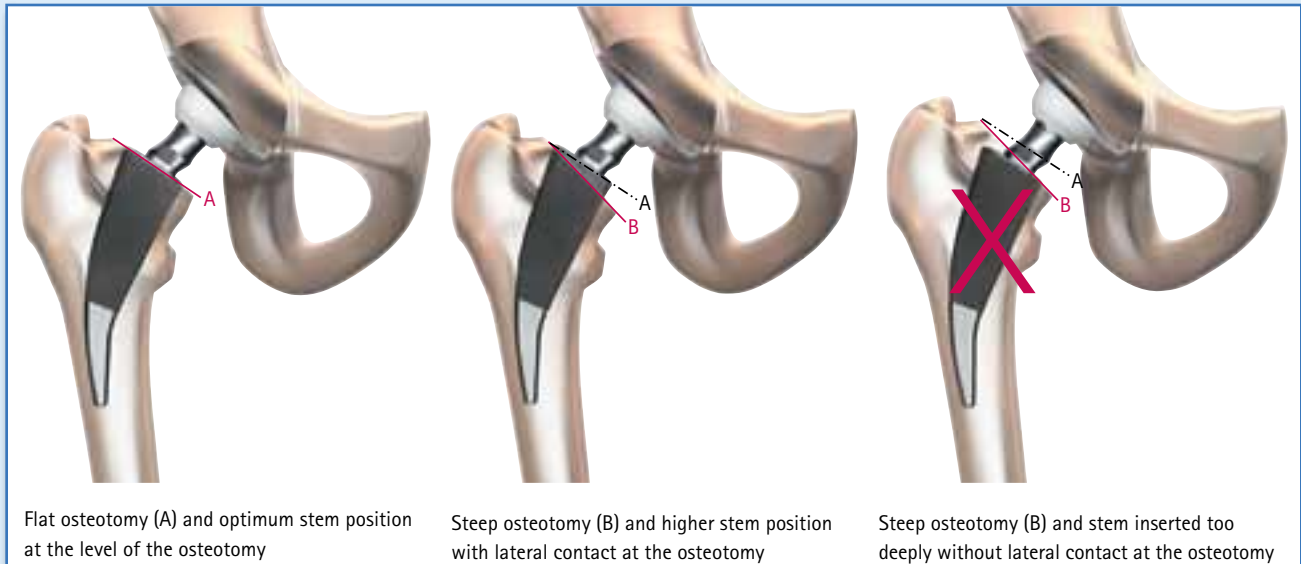

Fig. 4
- If the osteotomy is applied too low medially or if the osteotomy is too steep, the stem will be supported by a smaller medial bone surface. For this stem position, the primary stability comes from the cortical lateral support in the closed ring of the femoral neck. (Fig. 4)